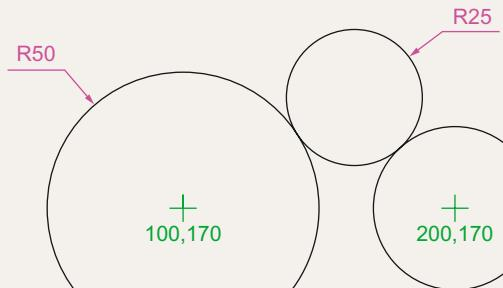

Fig. 2.31 Exercise 4
4. Using the **Circle** tool, construct the two circles of radius 50 and 30. Then using the Ttr prompt add the circle of radius 25 (Fig. 2.31).